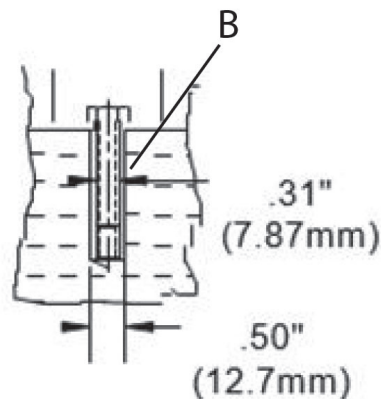

Fig. 1A
6. Anchoring the machine to the concrete floor is highly advised (B, Fig. 1A).
7. An alternative to anchoring is to use metal plates or shims. Use a metal shim under each leveling bolt (Fig. 1A).